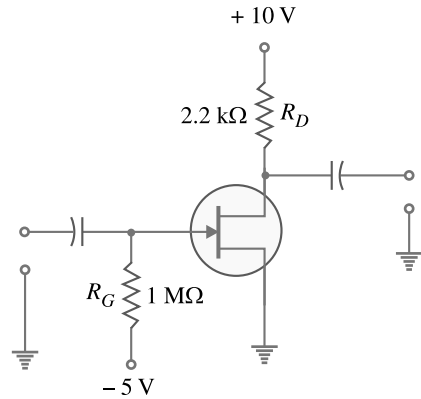

Fig. 17.24
**Example 17.13.** A *JFET* in Fig. 17.24 has values of  $V_{GS(off)} = -8\text{V}$  and  $I_{DSS} = 16 \text{ mA}$ . Determine the values of  $V_{GS}$ ,  $I_D$  and  $V_{DS}$  for the circuit.